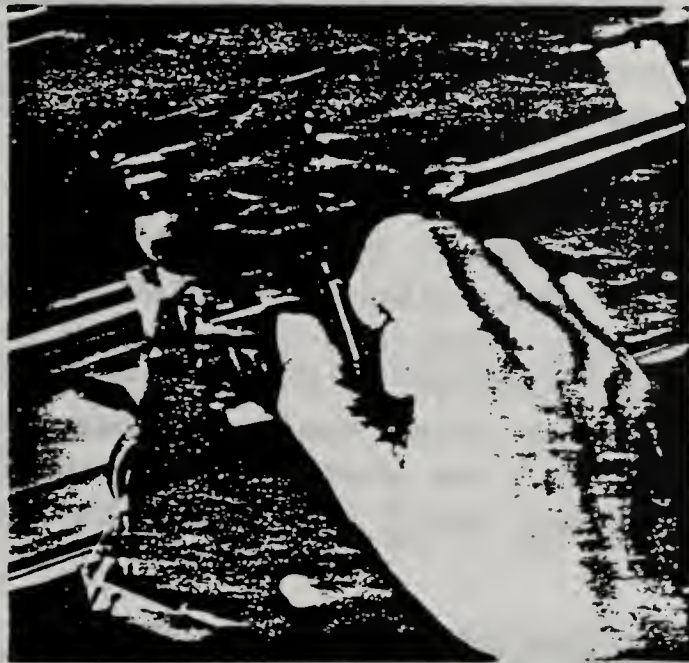

Figure 3-7. Tilting the Print Wheel Assembly
2. Grasp the print hammer and gently tilt the print wheel assembly away from the platen (refer to Figure 3-7).